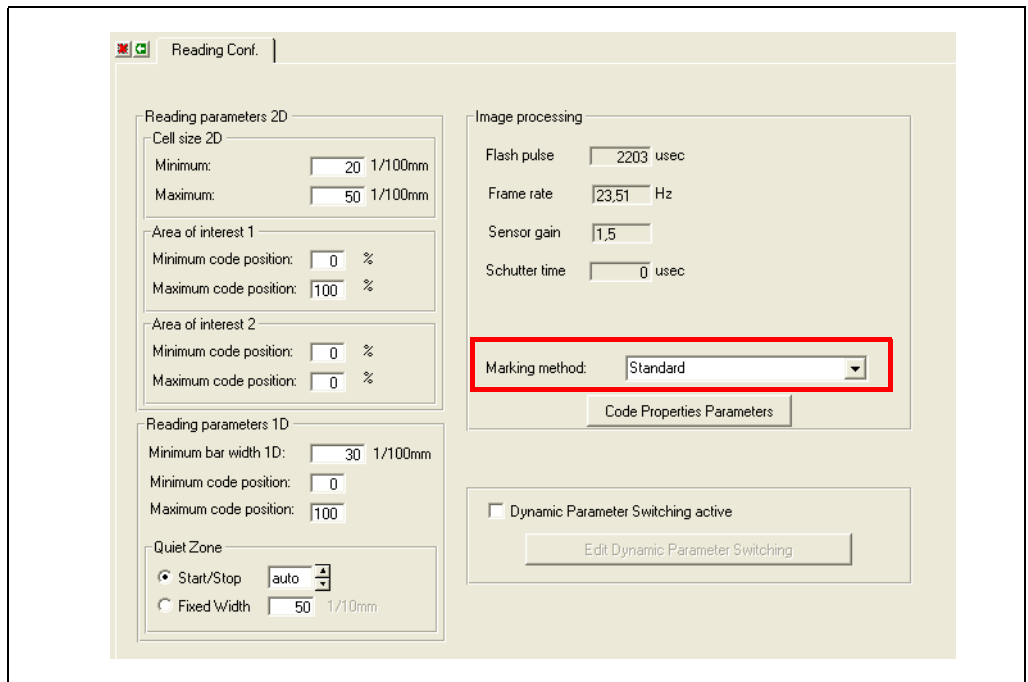

Fig. 10-1: CLV-Setup: "Reading Configuration" tab
1. Select the READING CONFIGURATION tab (*Fig. 10-1, Page 127*).